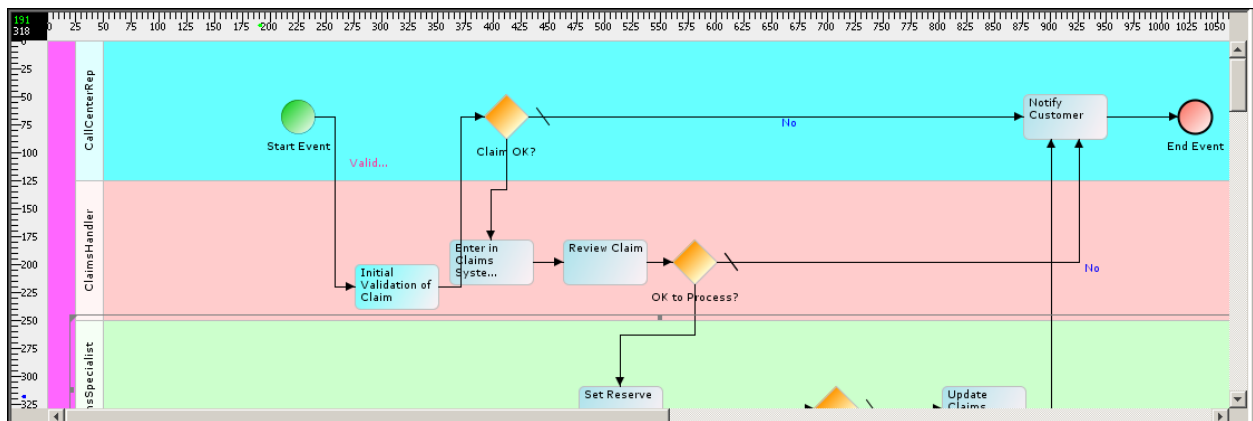

Figure 49: Edit Background Colors of Swim Lanes
1. Right-click the Swim Lane whose color you want to change and select **Change Background Color** option. This displays the **Select Color** screen (see Figure 49).
2. Select the color for the selected swim lane and click **OK**. This changes the label and background color for the selected lane (see Figure 49).